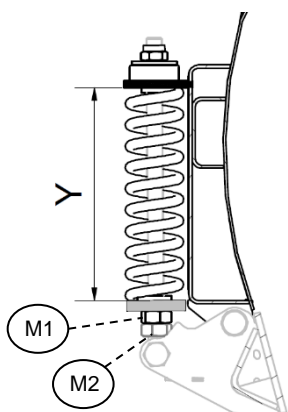

Figure 19
The default pretension, i.e. spring Y dimension, is 330 mm (VPX180 – 270 mm) – see Figure 19.
- 1) Loosen nuts M1 and M2 in the lower part of the spring – see Figure 19
- 7) Tighten the lower nut M2 against nut M1 to lock the spring – see Figure 19